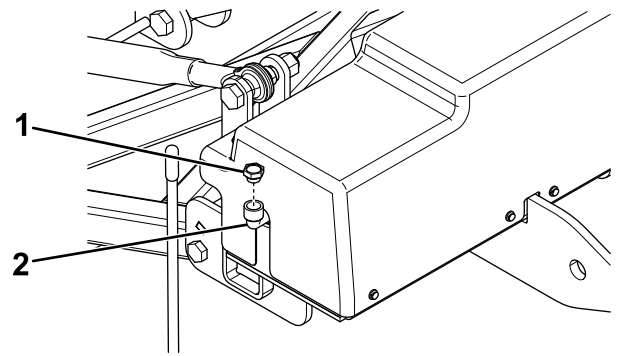

Figure 15
3. Remove the fill cap from the hydraulic reservoir on the side of the coupler assembly (Figure 15).